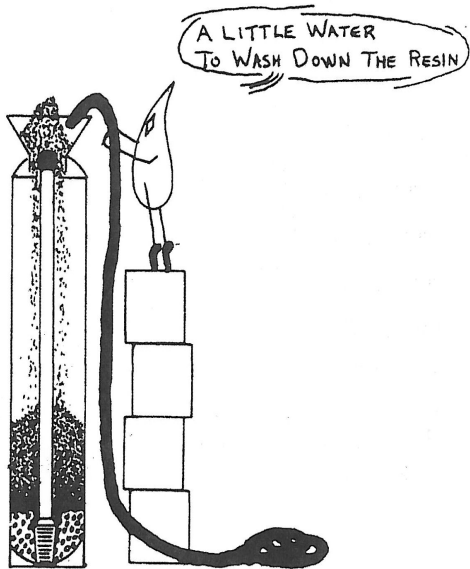

FIGURE 2
7. Scoop the mineral into the funnel. With a garden hose, direct water to the side of the funnel as shown in Figure 2.